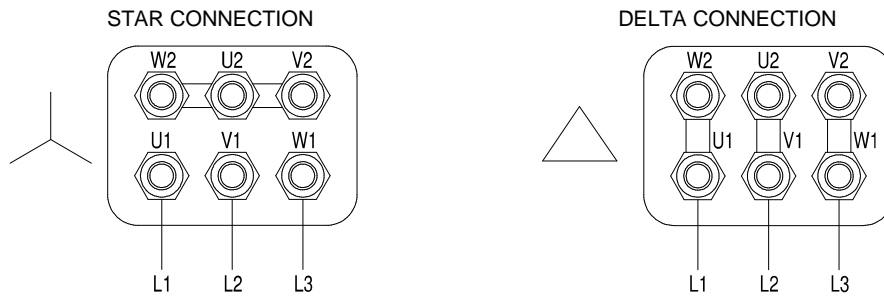

Fig.9 – Electrical connection
- check the star/delta connection of the wires to the motor terminals (see **Fig.9**)